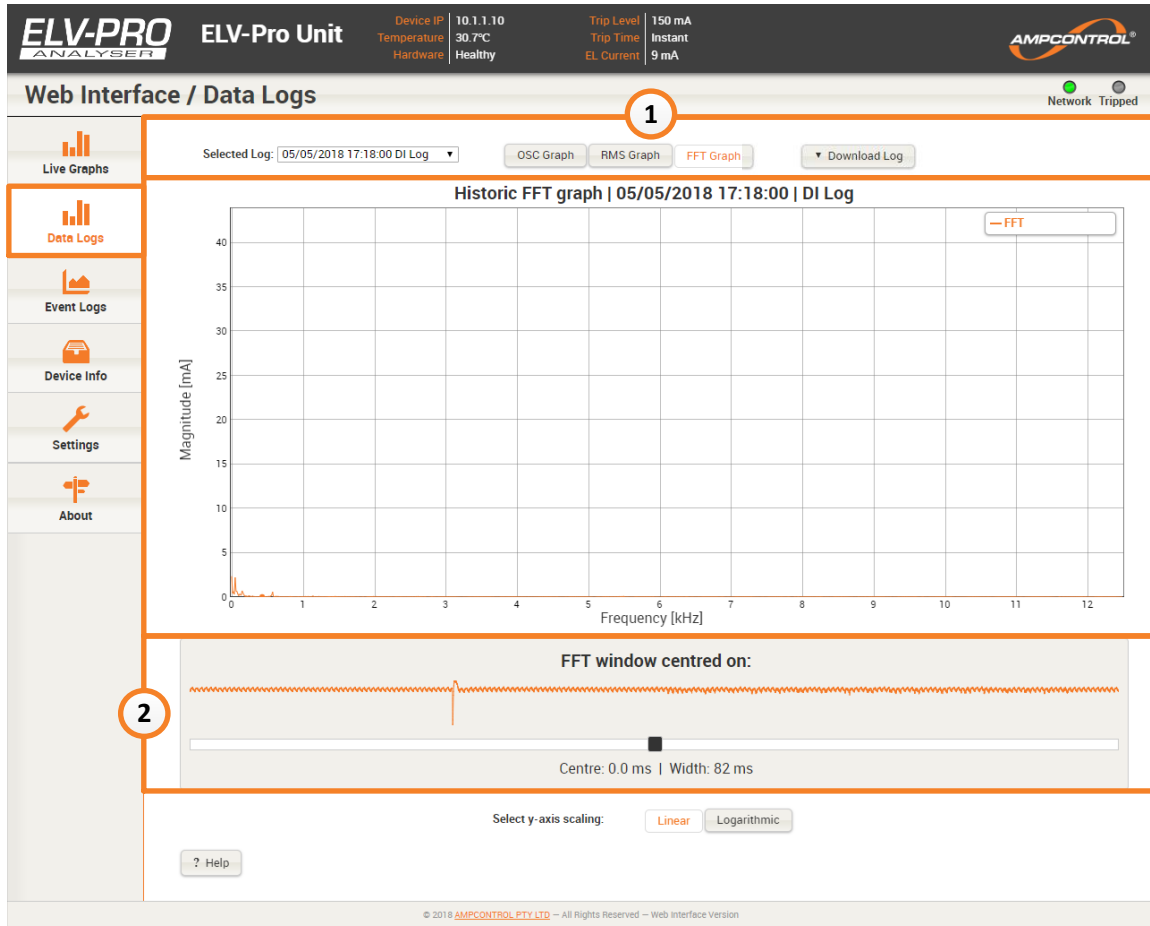

Figure 6-9: ELV-PRO Web Interface - Data Logs (FFT)
The FFT graph (Figure 6-9) corresponds to the selected 80ms of signal. A small oscilloscope plot of the signal (item 2 of Figure 6-9) is provided to indicate where in the recording the data is being analysed. Use the slider below the plot to select another window within the recording.